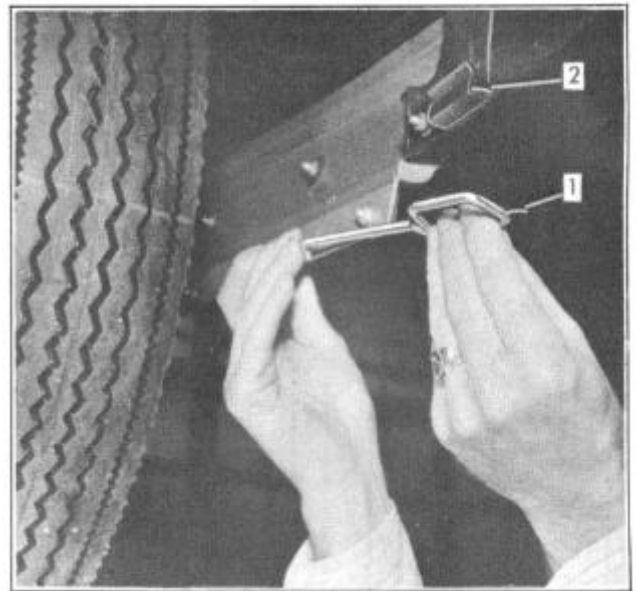

FIGURE 4
2. Remove rear fender shields by lifting up lever (1) (front and rear) over and out away from lever retaining bracket (2) thus allowing the shield to drop, for removal, as shown in Figure 4.